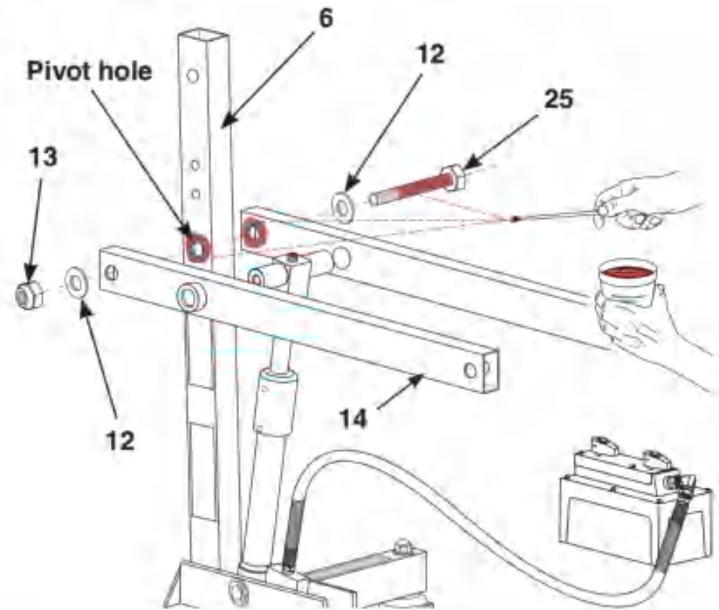

Figure 7
10. Grease mast pivot hole area and 6-1/2" cap screw (25). Assemble 7/8" washer (12) on cap screw and install into pivot holes of lower lift arms (14) and mast (6). **See Figure 7.**
11. At the opposite side, install a 7/8" washer (12) and hand-tighten locknut (13) onto the cap screw (25) as shown. **See Figure 7.**